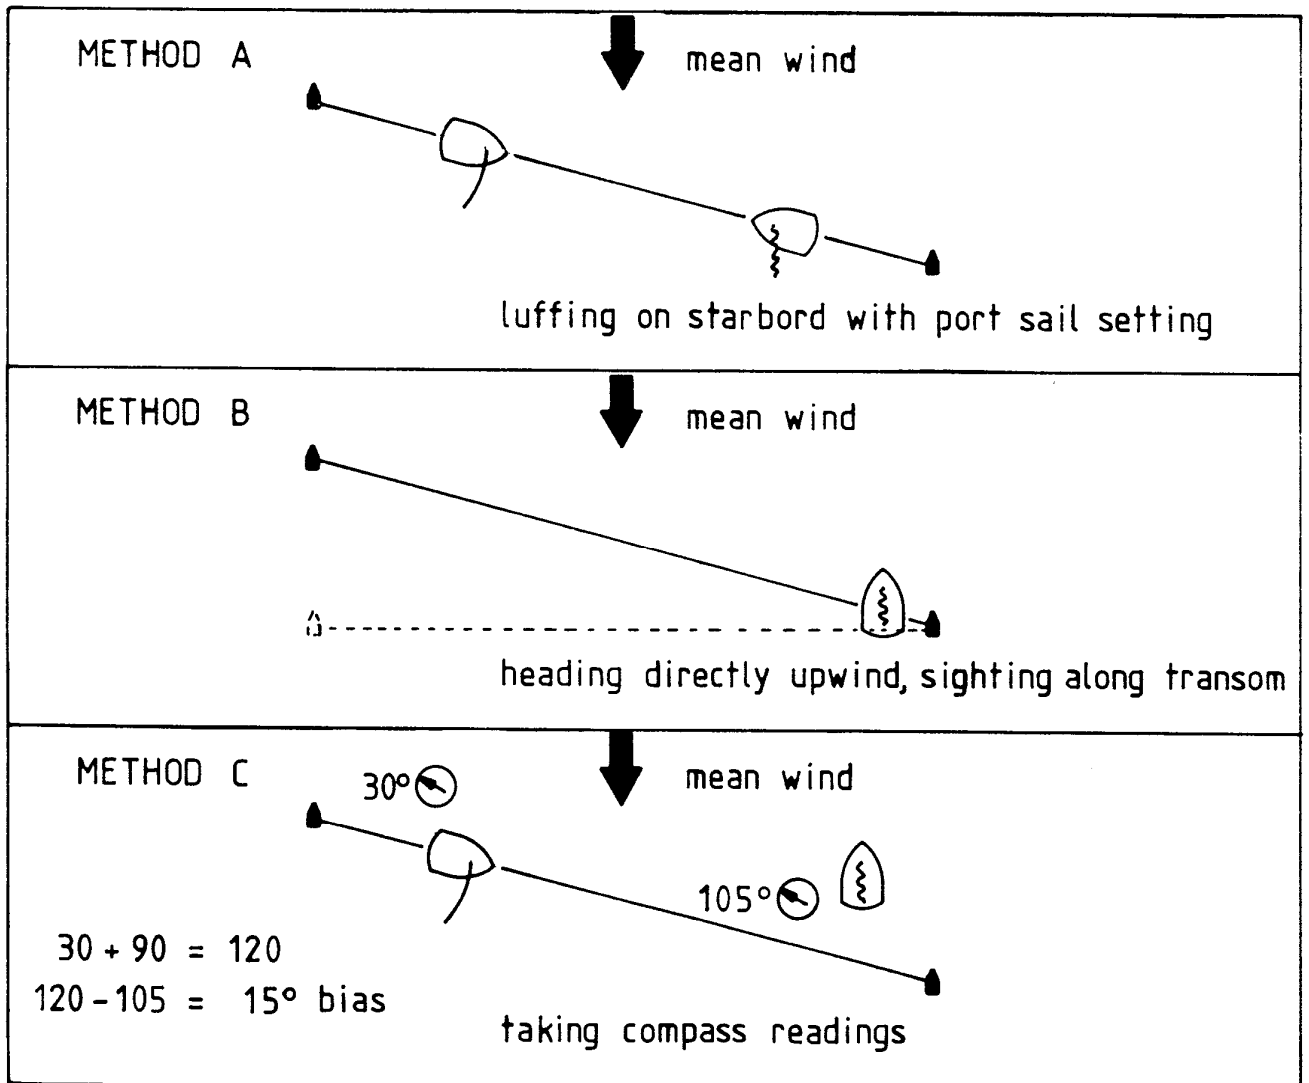

Fig. 9 Determining the location of the starting line by taking transits and also determining which end is favoured.
The best way of determining the position of the starting line for your final approach is by taking transits (Fig. 9). If, for example, you intend to start on starboard tack, you should sight along the extension of the line to a landmark on the shore. Then use the port end buoy and the landmark to estimate how close you are to the line. The transit should be taken when luffing at a point on the extension of the line just to the right of the starboard mark. It often helps to pick a second landmark just in front of the extension of the line. This can be used to estimate where you are if your view of the first landmark is obscured. Taking transits in this way avoids the need to be continually looking up and down the line in the last few seconds before the start to judge your position between the two marks. There are too many other things to worry about just before the gun.
1. Sail down the line with the mainsheet set at an optimum angle. Quickly tack and head back along the line in the other direction without changing the mainsheet setting, and see whether you are footing or luffing on the return heading. The end to which you head with the sail luffing is the favoured end. Try this more than once to account for changes in wind direction (Fig. 9).
2. Luff head-to-wind on the line, adjacent to one of the marks. Use your wind indicator to ensure that the boat is heading directly into the wind. Sight across the boat using the traveller or back of the cockpit as a guide and see whether the mark at the other end is above or below the imaginary line of sight. If the mark is above this line taken at right angles to the wind direction, then it is further upwind. Again, this should be done more than once to allow for wind changes (Fig. 9).
3. Use the same method of sailing along the line and luffing directly into the wind, but use a compass to compare the headings (Fig. 9).